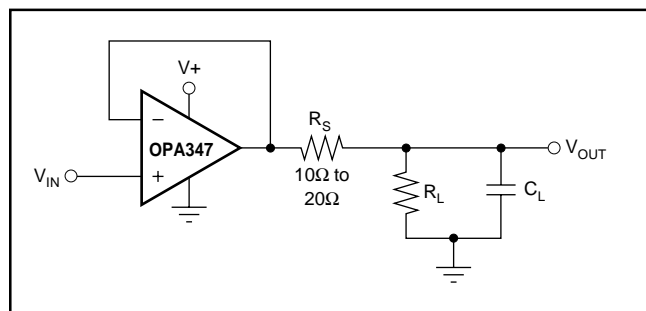

FIGURE 6. Series Resistor in Unity-Gain Buffer Configuration Improves Capacitive Load Drive.
The OPA347 in a unity-gain configuration can directly drive up to 250pF pure capacitive load. Increasing the gain enhances the amplifier's ability to drive greater capacitive loads (see the characteristic curve Small-Signal Overshoot vs Capacitive Load). In unity-gain configurations, capacitive load drive can be improved by inserting a small (10 $\Omega$  to 20 $\Omega$ ) resistor,  $R_S$ , in series with the output, as shown in Figure 6. This significantly reduces ringing while maintaining Direct Current (DC) performance for purely capacitive loads. However, if there is a resistive load in parallel with the capacitive load, a voltage divider is created, introducing a DC error at the output and slightly reducing the output swing. The error introduced is proportional to the ratio  $R_S/R_L$ , and is generally negligible.